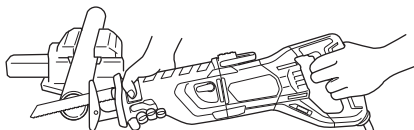

Fig. 17
- (1) Fasten a workpiece firmly before operation. (Fig.17)